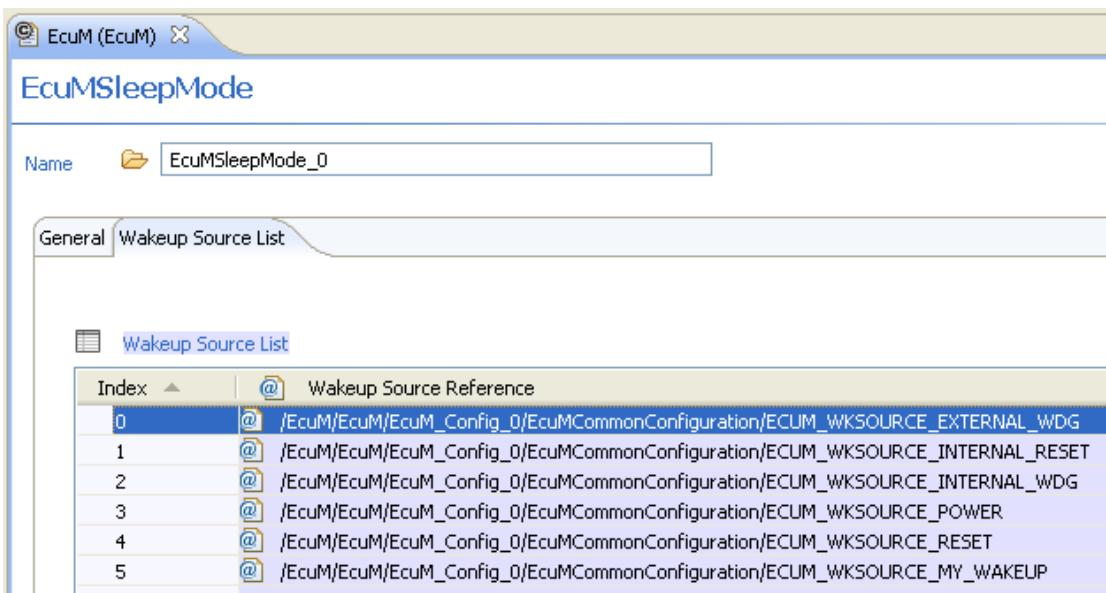

Figure 4.4. Configuring the **Wakeup Source List**
- ▶ To configure the EcuM module for the sleep mode, configure the sleep mode list by registering all wake-up sources for this sleep mode, as shown in Figure 4.4, “Configuring the Wakeup Source List”.
During sleep mode, the EcuM reacts on wakeup events which are configured for the sleep mode. Therefore, the wakeup events have to be configured in the EcuM *Wakeup Source List* as shown in Figure 4.6, “Configuring the Sleep Mode List”. Additionally, the wakeup events must be referenced from the *Sleep Mode List* configuration as shown in Figure 4.4, “Configuring the Wakeup Source List”.